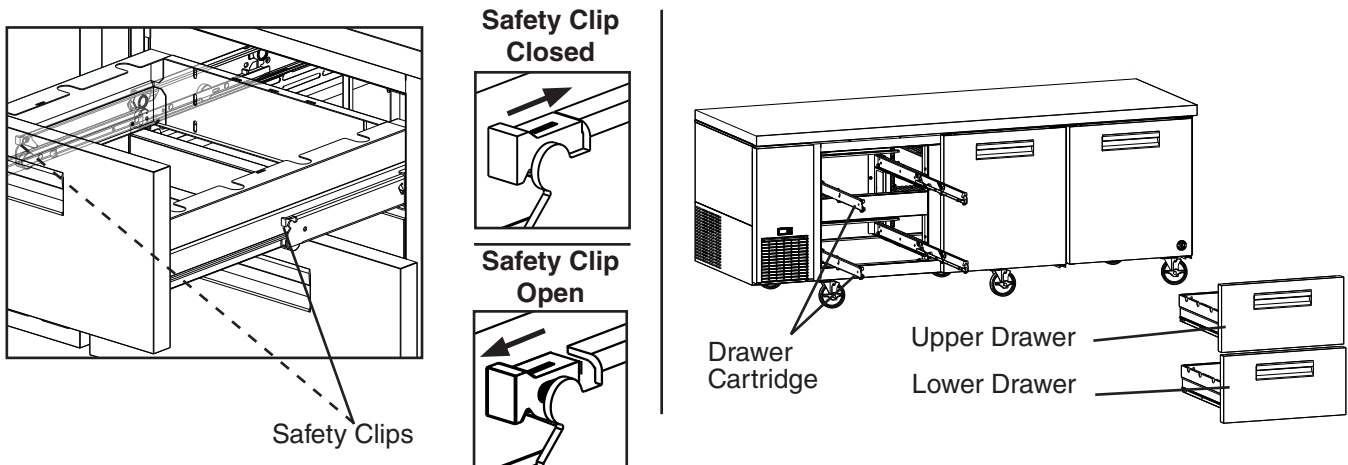

Fig. 17
- 2) Remove the drawers. Pull the drawer out to its fully extended position. Open the safety clips (one on each side) by sliding them forward. See Fig. 17. Lift up on the handle slightly, then pull to disengage the drawer. Be sure to support the rear and front of the drawer while removing it and note which is the upper and lower drawer.